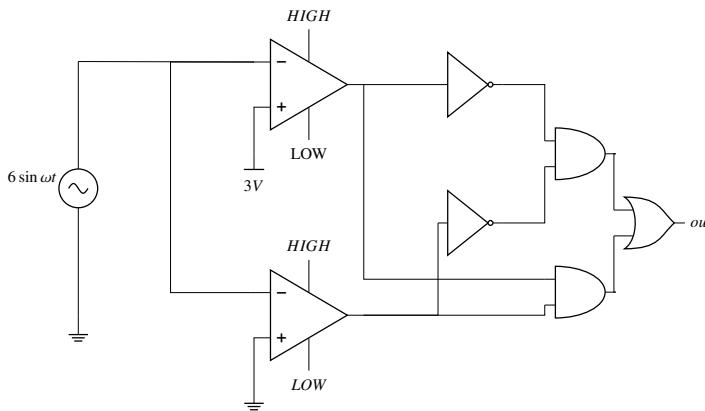

Fig. 3.26: Circuit Daigram
43. In the circuit shown below in Fig. 3.26, assume that the comparators are ideal and all components have zero propagation delay. In one period of the input signal  $V_{in} = 6 \sin(\omega t)$ , the fraction of the time for which the output OUT is in logic HIGH is (GATE-IN2019,34)